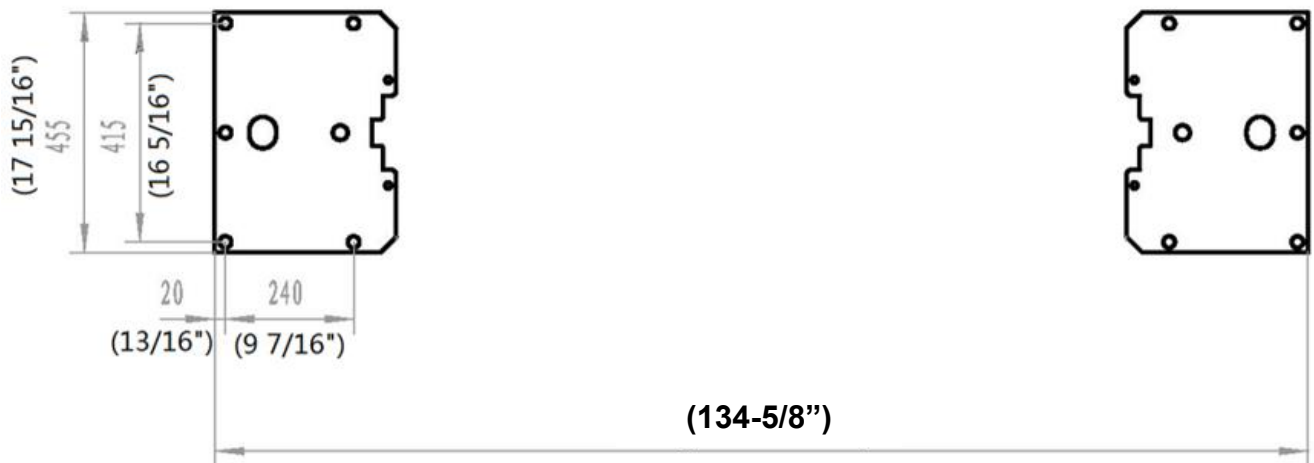

Fig. 4
3. Once a location is determined, use a carpenter's chalk line to layout a grid for the columns locations. **(See Fig. 4)**